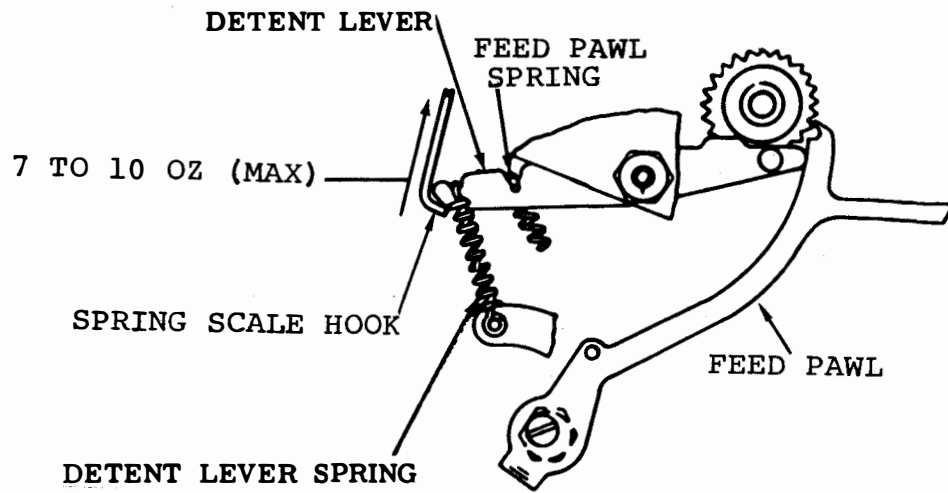

Figure 6-159. Detent Lever Spring
(15) Detent Lever Spring. Adjust as follows:
- (a) Refer to Figure 6-159.
(1) Perforator Position (Preliminary). Adjust as follows: